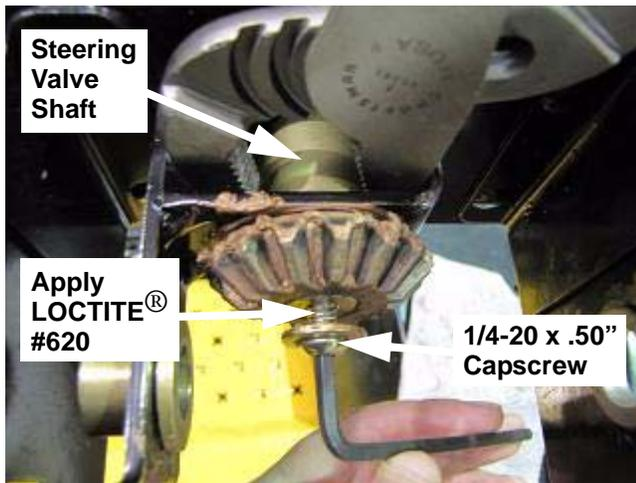

FIGURE 8
12. Retain the steering valve shaft from turning with a pair of channel lock pliers. Back out the 1/4-20 x .50" capscrew and apply a small amount of LOCTITE® #620 to the threads of the capscrew. See Figure 8.